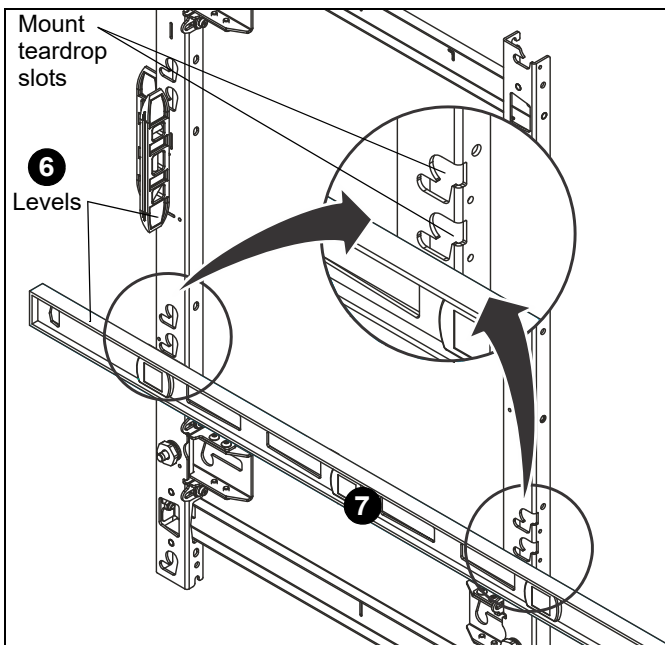

Figure 8
- Place a level across front of the mount at bottom of teardrop slots. (See Figure 8)
- Check the level of the mount at the teardrop slots. (See Figure 8)